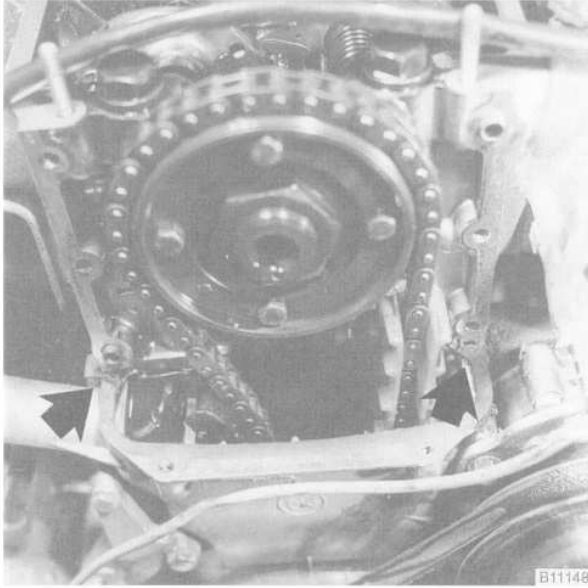

Fig. 31. Apply sealer (arrows) to corners before installing chain cover.
- Apply a light coat of sealer to the two upper camshaft timing chain cover gaskets. Set the gaskets into position on the cover. Apply a sealer (Three Bond Silicon 1207, or equivalent) to each corner of the cylinder head/upper timing chain cover surface area. See Fig. 31.